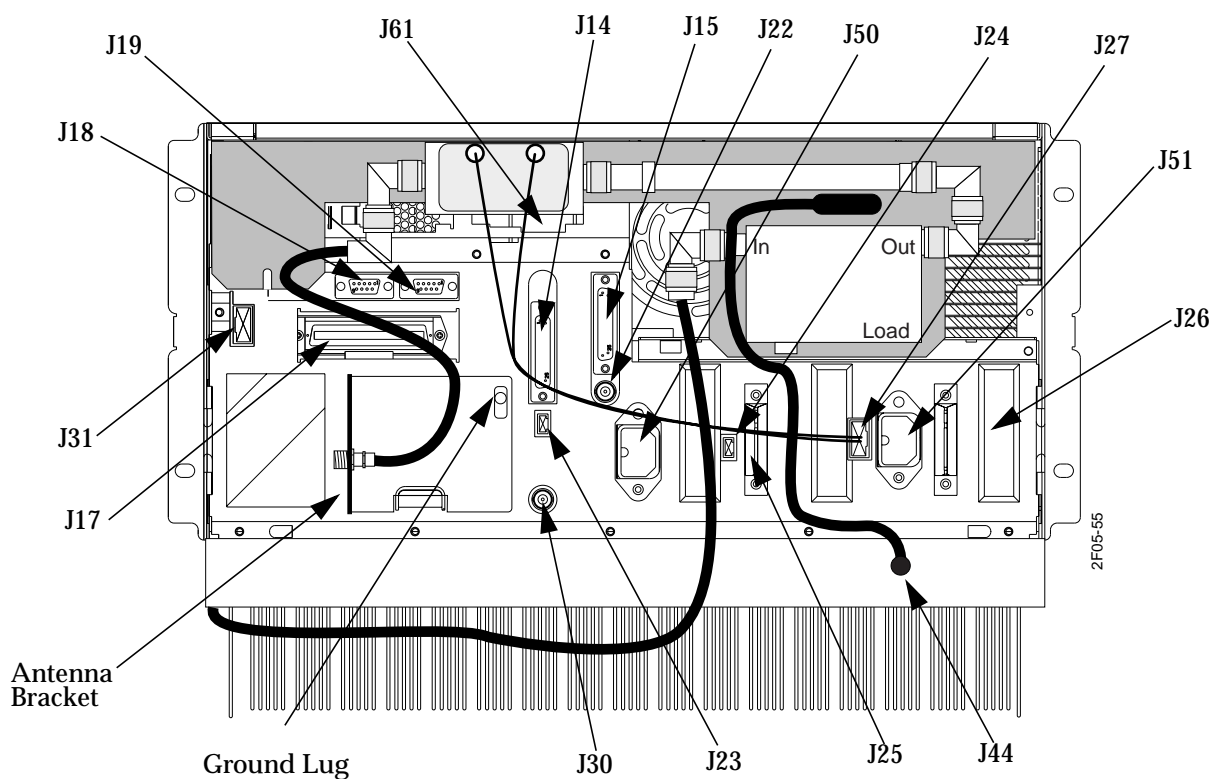

Figure 5-1: Backplane Connectors for a High Power Station (with Circulator Option)
- High power station (see Figure 5-1)